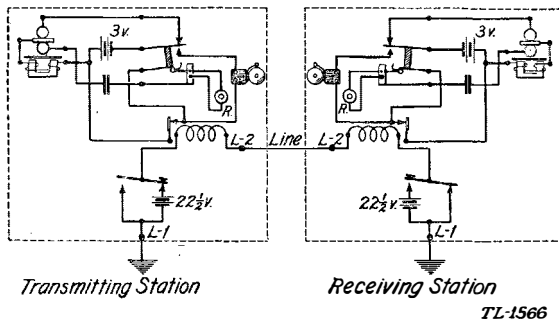
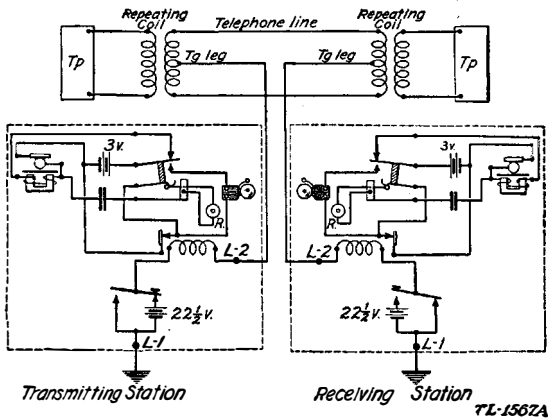

FIGURE 7.—Telegraph set TG-5—transmitting and receiving circuits.
FIGURE 9.—Telegraph set TG-5-A—two terminal stations connected to a simplex telephone circuit.
**NOTE.**—Early telegraph sets TG-5 were procured before nomenclature jack JK-35 was assigned to the jack. Therefore the jacks and the circuit labels in these sets did not bear this nomenclature but called for jack, Western Electric No. 226-A. Requisitions should call for Jack JK-35 when replacements are needed. (See figs. 7 and 8.)
**15. Key J-41.**—Key J-41 is an open-circuit operating key of the usual lever type mounted on a molded bakelite base, which in turn is mounted on the inside of the front of the box. In its normal or receiving position, the back contacts connect the relay winding in series with the line but not with the line battery of its set. (See figs. 7 and 8.) In its operating or transmitting position the back contacts are opened, and the front contacts connect the line battery of its set in series with the relay winding and the line. Thus the key operates the relay of its own set and places its line battery on the line to which it is connected. Consequently a set uses its line battery only when its key is operated. Three knurled binding posts are available on the key for making its connections, and it is easily adjustable to suit the operator.
20. Testing transmitting and receiving circuits (figs. 7 and 8).—Having completed the actions directed in paragraphs 18 and 19, test the transmitting and receiving circuits as follows:
(2) *Line connection.*—If the ground has been connected to L1, connect the line to L2. This line may be a wire which is to be used exclusively for telegraph, in which case the two terminal stations are connected as shown in figures 7 and 8. Usually, however, this line will be the telegraph leg of a simplex telephone circuit, in which case the two terminal stations are connected as shown in figure 9.